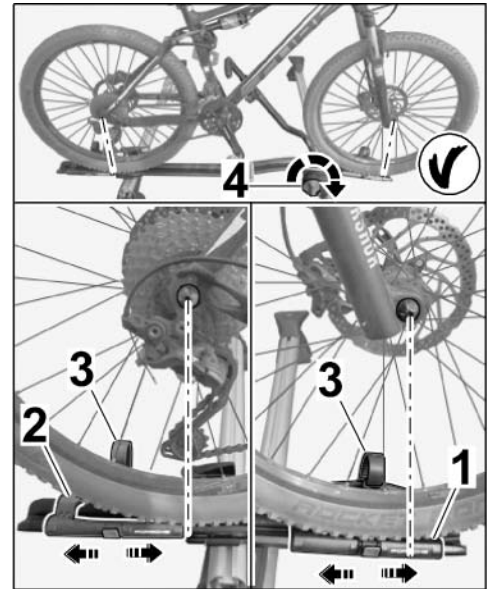

Figure 15
- 5.2.4 Align wheel mount (front/rear) vertically under the wheel hubs of the front/rear wheel (⇒ *Figure 15*).
- 5.2.5 Turn rotary knob (⇒ *Figure 15 -4-*) as far as possible to the right.